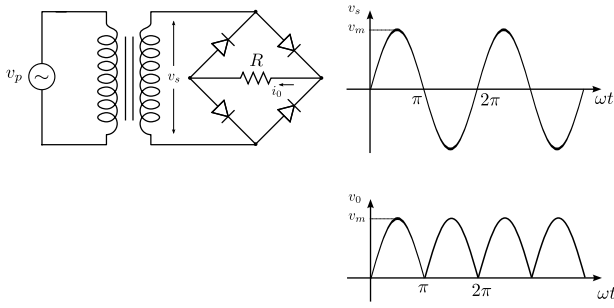
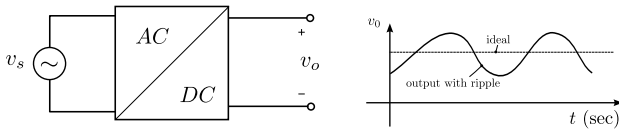

Fig. 1. An example figure. Figure captions should provide sufficient information to understand the image.
Fig. 2. An example figure. Figure captions should provide sufficient information to understand the image.
Figure Labels: Use words rather than symbols or abbreviations when writing Figure axis labels to avoid confusing the reader. As an example, write the quantity “Magnetization”, or “Magnetization, M”, not just “M”. If including units in the label, present them within parentheses. Do not label axes only with units. In the example, write “Magnetization (A/m)” or “Magnetization {A[m(1)]}”, not just “A/m”. Do not label axes with a ratio of quantities and units. For example, write “Temperature (K)”, not “Temperature/K”. See examples Fig. 1 and Fig. 2 in this document.